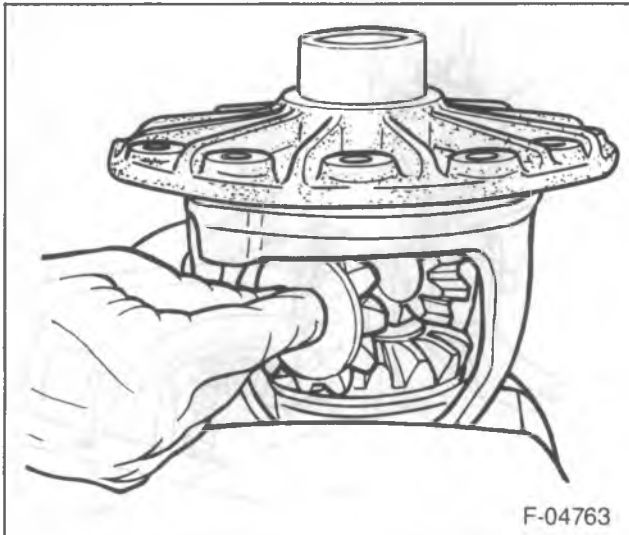
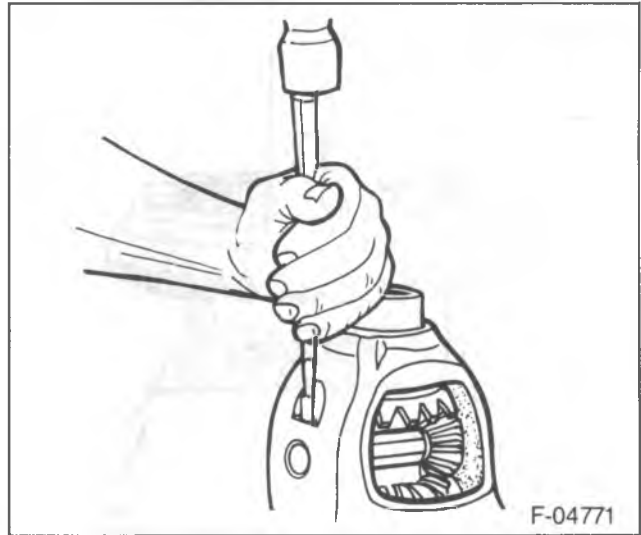
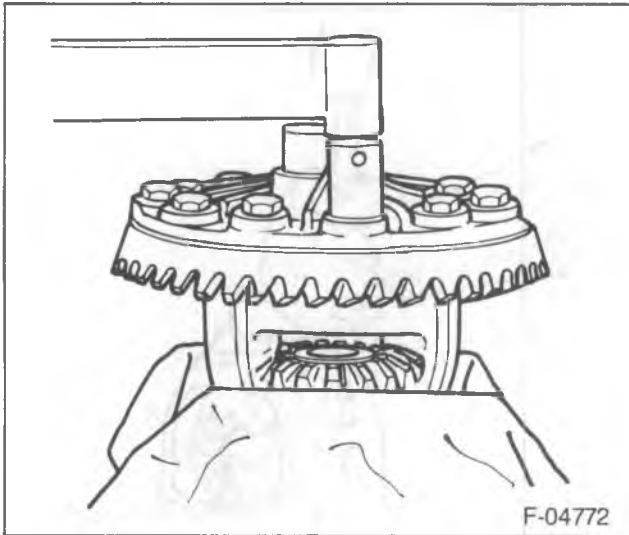

Figure 58—Installing the Pinion Gears
Figure 59—Installing the Lock Pin
Figure 60—Installing the Ring Gear Bolts
- 1. New side gear thrust washers (27) to the side gears (25).
- 2. Side gears (25) to the differential case.
- Place the side gears in place on the same side as removed (figure 58).
3. Pinion gears (24) to the differential without the thrust washers (26).
4. New pinion thrust washers (26).
5. Pinion shaft (28).
6. Lock pin (29) (figure 59).
7. Ring gear (2) to the differential case (22).
8. New ring gear bolts (23) (figure 60).